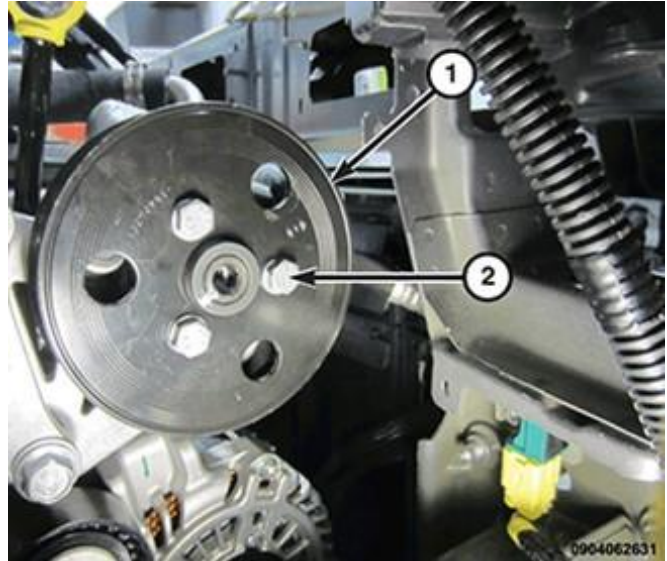

Figure 11 – Pump Pulley
18. **(VM) Ram ProMaster City Only:** Remove the three bolts (2) and the power steering pump pulley (1) (Figure 11).
44. **(VM) Ram ProMaster City Only:** Position the power steering pump pulley (1) then install the three bolts (2) and tighten to 25 N·m (18 ft. lbs.) (Figure 11).